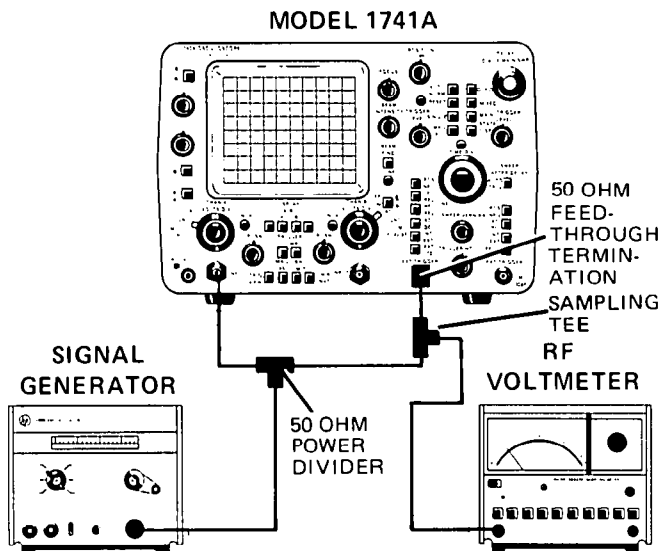

Figure 4-3. External Triggering Test Setup
- a. Connect equipment as shown in figure 4-3.